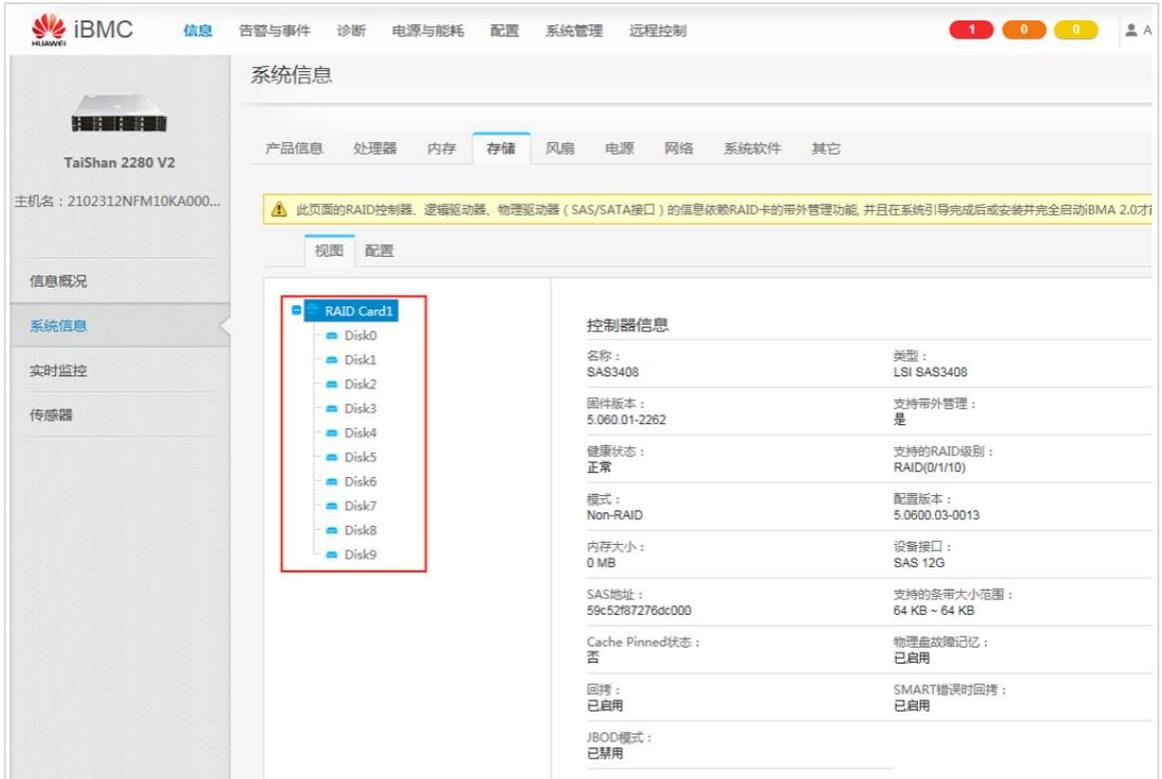

Figure 4-3 System Information
- If the information shown in Figure 4-3 is displayed, the disk of the server is initialized. Go to step 4 to partition the disk space.